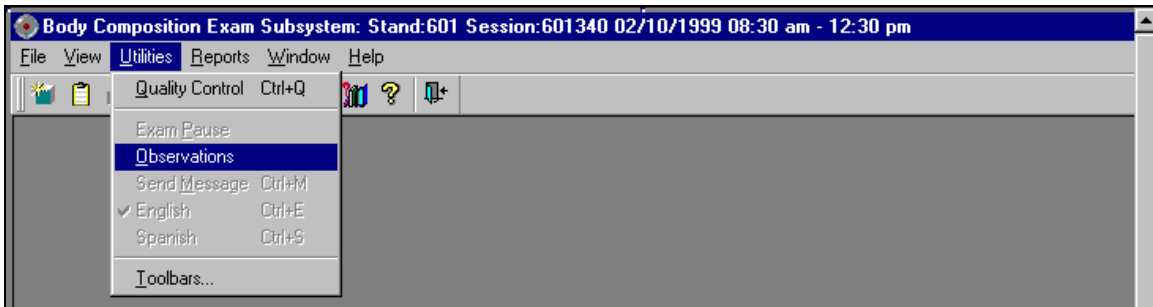

Figure 5-1. Menu to select observation referral
- Under 'Utilities,' select 'Observations.' If an exam is already opened, the Observation Referral box for that SP will be displayed. See Figure 5-1.